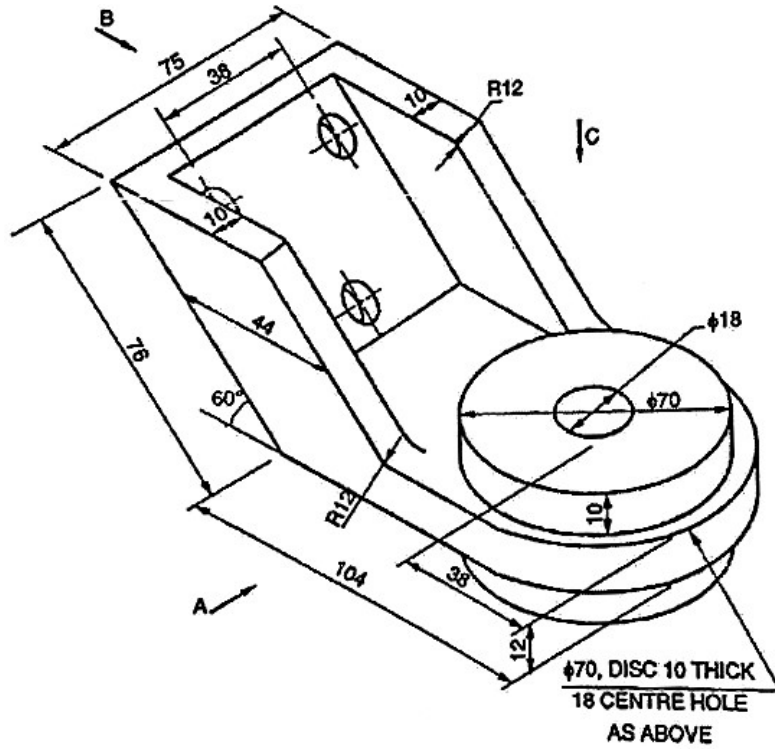

Figure : 2
4. Fig. 2 shows the isometric view of an engine mount. Draw its front view in the direction of A :